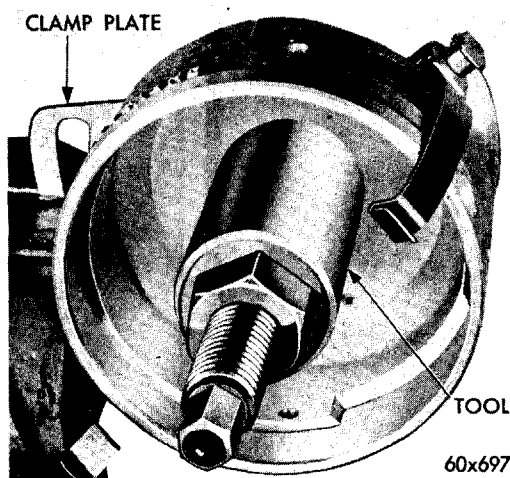
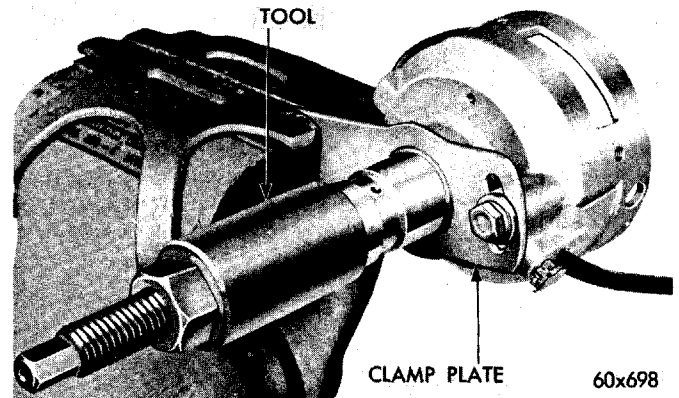

Fig. 7—Removing Distributor Housing Upper Bushing (6 Cylinder)
Fig. 8—Removing Distributor Housing Lower Bushing (6 Cylinder)
(9) Remove cam and yoke assembly.
(10) Remove the distributor drive collar retaining pin and slide collar off the end of the shaft. **The 6 cylinder engine distributors are equipped with a driven gear held to the shaft with a roll-pin. Support the hub of gear in a manner that pin can be driven out without damaging the gear.**
(11) Use a fine file to clean the burrs from around the pin hole in the shaft and remove the lower thrust washer.
(12) Push the shaft up and remove through top of distributor body. Remove upper thrust washers.
(13) Remove the shaft oiler and lift out the oiler wick. **Do not drive the bushings out of the distributor housing for 6 cylinder engines.**
(14) For 6 cylinder engines, remove upper bushing with tool C-3744 (Fig. 7), by threading the tap securely into the bushing. Place body of tool over the top and install nut on threaded end of tap. Tightening nut while holding tap from turning will pull the bushing from the housing bore. Invert housing and remove lower bushing in the same manner, as shown in Figure 8.